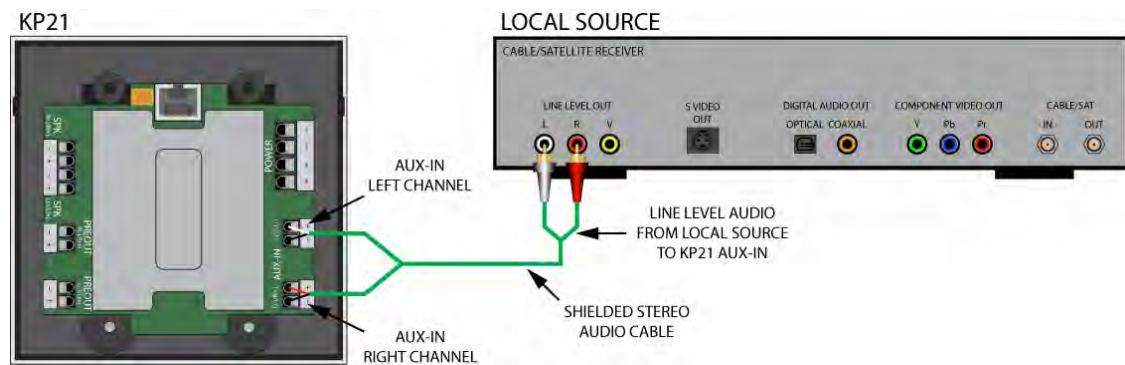

Figure 96 KP21 AUX-IN Connections
- Using a CAT5e cable properly terminated with an RJ45 connector, connect the cable from one of the **Multiroom Link Terminals [circle 30]** on the AVR21EN, to the **AVH21 Hub Terminal [hexagon 23]** on the KP21 rear panel as shown in **Figure 96**.
- Using a CAT5e cable properly terminated with an RJ45 connector, connect the cable from the appropriate AVH21 A/V Hub **KP Terminal [pentagon 5]** to the **AVH21 Hub Terminal [hexagon 23]** on the KP21 rear panel as shown in **Figure 96**.
2. Insert the twisted ends into the appropriate slots on the **R+/R-** and **L+/L-** **AUX IN Terminals [hexagons 29, 30]** on the KP21 rear panel as shown in **Figure 96**, and tighten with a small blade screwdriver. Pull the wire slightly to confirm connection.
4. Connect to local source Left and Right line level audio outputs as shown in **Figure 96**.